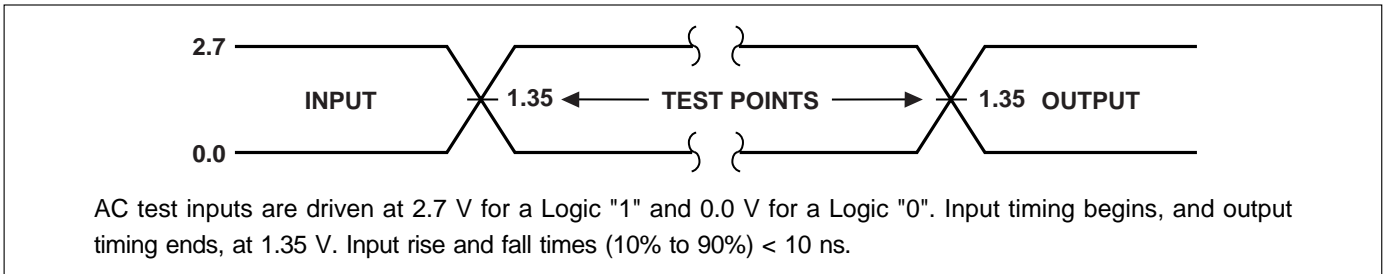

Fig. 9 Transient Input/Output Reference Waveform for Vcc = 2.7 to 3.0 V
1. See AC Input/Output Reference Waveform (Fig. 9 through Fig. 11) for maximum allowable input slew rate.